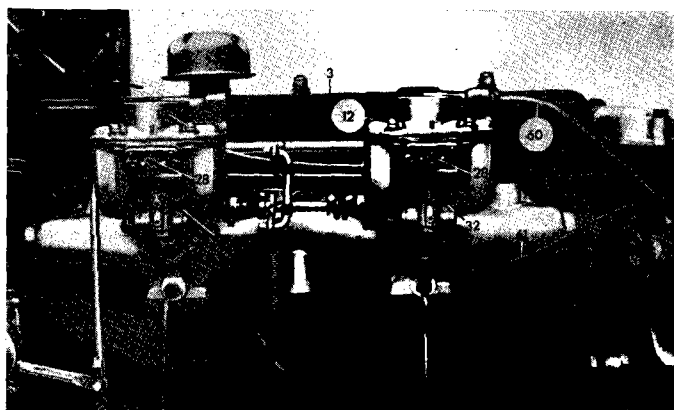

Fig. 36. R.H. view of carburetors
To Check Needle Valve Height (Fig. 36)
Jet Block — Removal (Fig. 36)
Disconnect the fuel pipe (60) (Fig. 36) and advance vacuum pipe (61) from the front carburettor and remove the fuel hose (3) from between the carburettors.